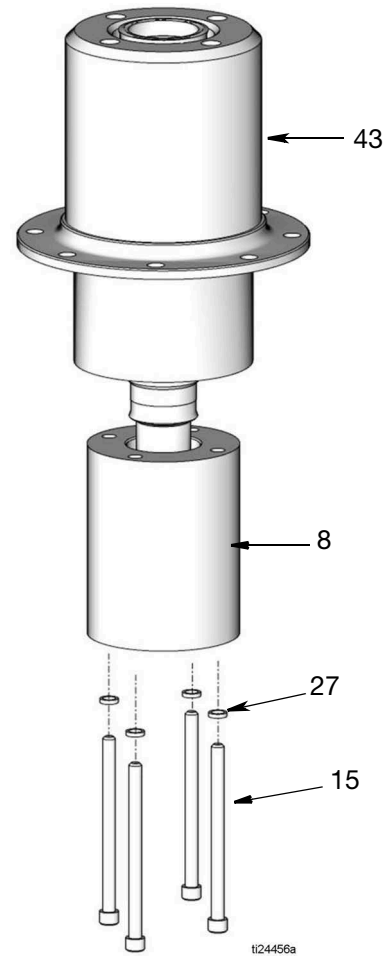

FIG. 6
- Remove four capscrews (15) and washers (27) from bottom of pump adapter (8). Tap pump adapter to loosen it and pull it off the motor housing (43) (FIG. 6).
4. Remove four capscrews (15) and washers (27) from bottom of pump adapter (8). Tap pump adapter to loosen it and pull it off the motor housing (43) (FIG. 6).